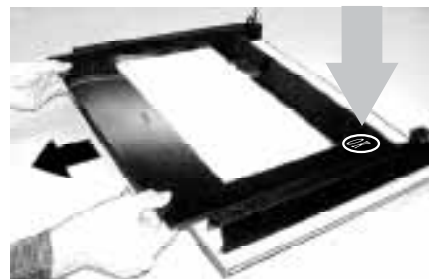

fig. 5
3. Slide the door glass out in the direction shown in fig. 5.
Please keep the ok symbol to the bottom right of the oven door (fig. 5) as indicated by the grey arrow.